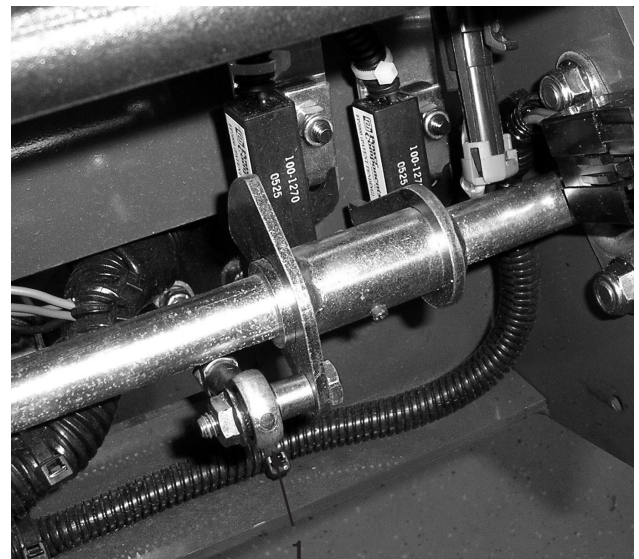

Figure 18
- Disconnect the override assembly from the bail end of the assembly by removing the ball joint from the bolt (Fig. 18).